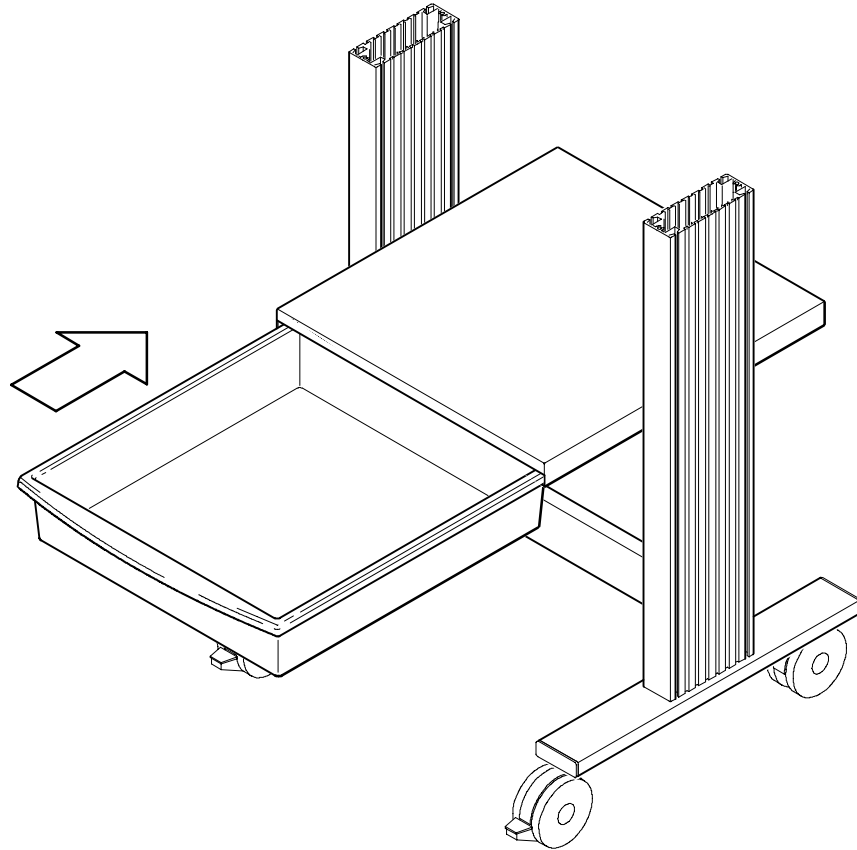

**Figure 7: Aligning the Drawer Shelf**
2. Position the drawer shelf horizontally between the leg assemblies, as shown in Figure 7. Position the shelf so the open edge is to the front of the cart.